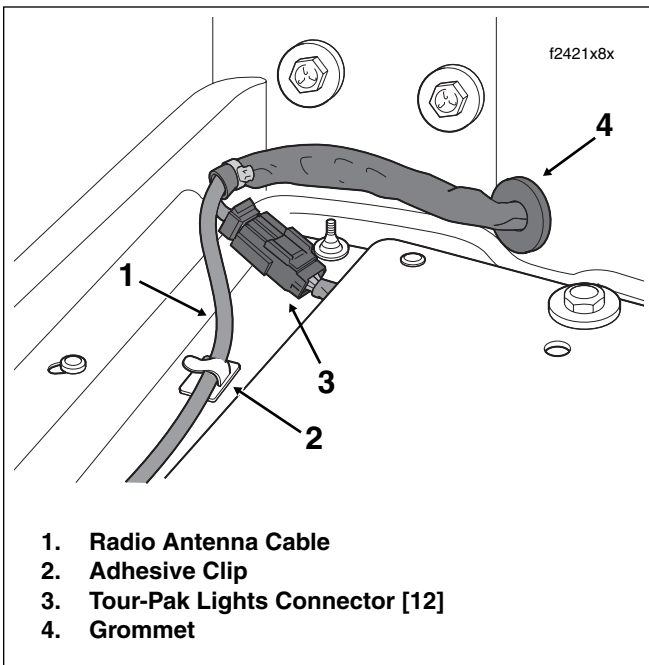

Figure 8-181. Disconnect Tour-Pak Lights Connector
12. Disconnect Tour-Pak lights connector [12], 3-place Multilock. See Figure 8-181.
- Connect Tour-Pak lights connector [12], 3-place Multilock. See Figure 8-181.